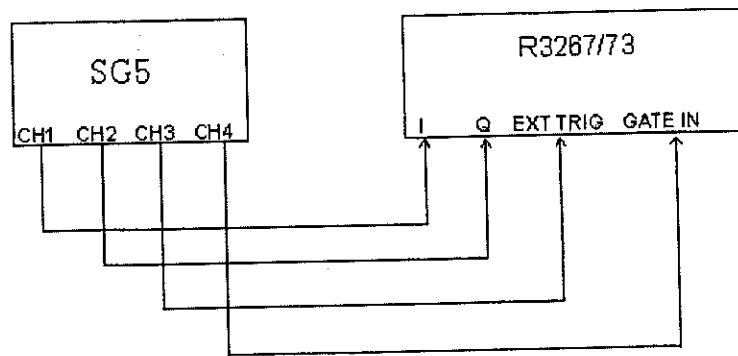

Figure 3-30 Setup of MS Measurement Test
1. Connect equipment as shown Figure 3-30.